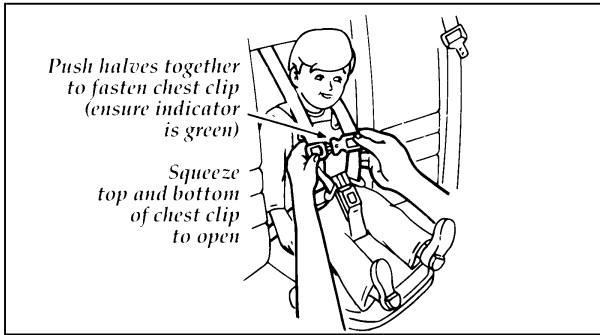

Figure 8: Securing the chest clip
9. Fasten both halves of the chest clip below the child's shoulders and adjust it to comfortably hold the child's shoulders and adjust it to comfortably hold the shoulder belts in place on the child's chest. The color green must show in the indicator when fastened. The purpose of this clip is to position the shoulder belts correctly on the child's shoulders. The clip can be easily pulled apart and is designed to pull apart during a collision. The clip helps keep the belts on the shoulders of a sleeping or squirming child. Refer to Figures 8 and 9.
1. Squeeze the tabs on the top and bottom of the chest clip and pull the halves apart to open the chest clip. Refer back to Figure 8.